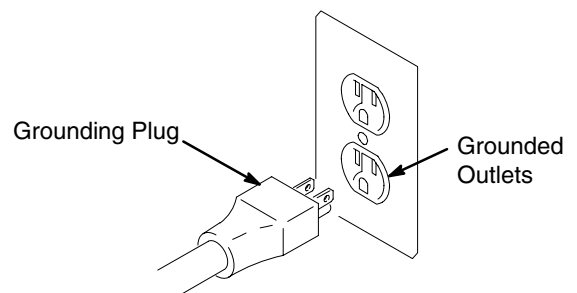

Fig. 2
1. Fig. 2. Ultra Max II 695, 795 and 1095 100–120 Vac models require a 50/60 Hz, 15A circuit with a grounding receptacle. Ultra Max II 1595 120 Vac models require a 50/60 Hz 20A circuit with a grounding receptacle; 220–240 Vac models require a 50/60 Hz, 10A circuit with a grounding receptacle.